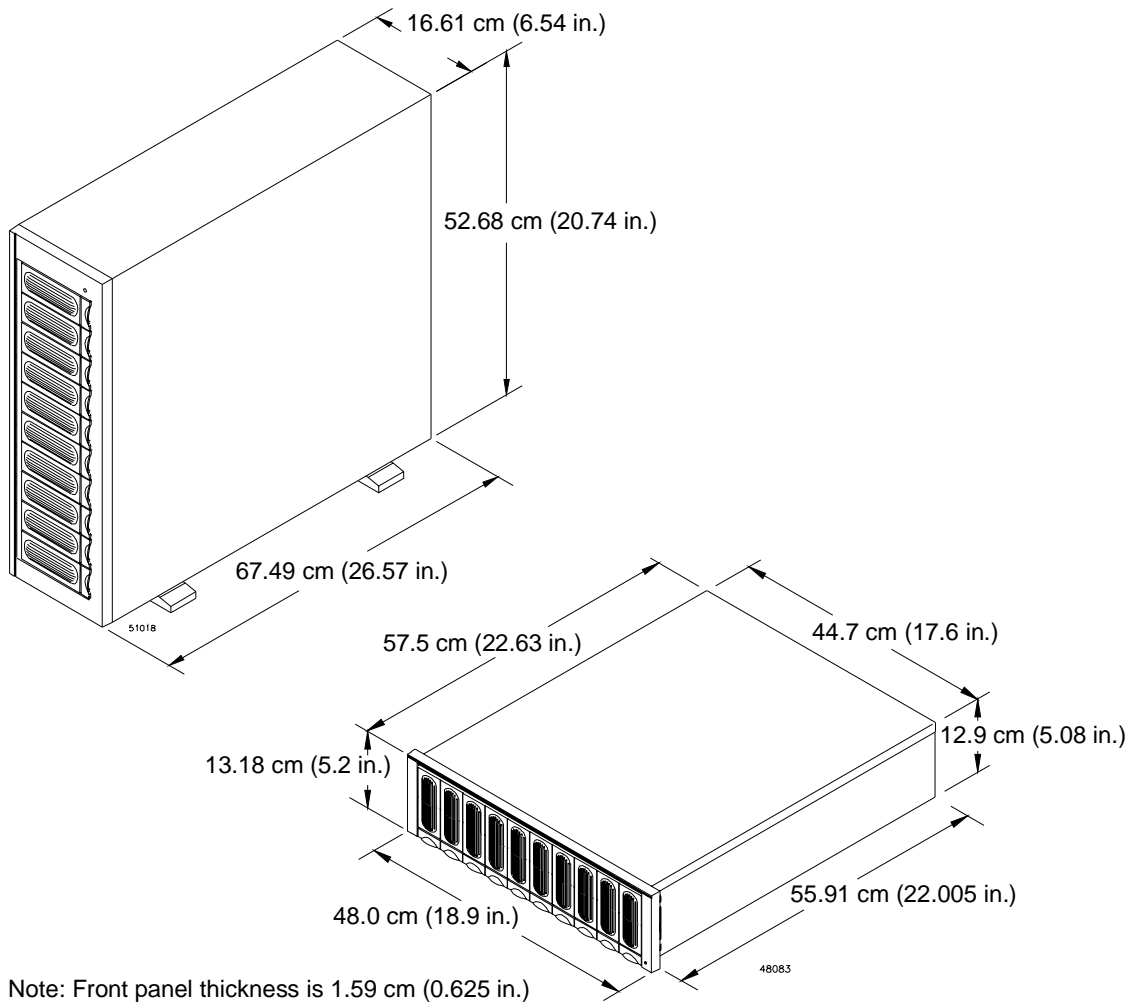

Figure 1 E3300 Drive Module Dimensions
- E3300 drive module – see Figure 1 on page 13